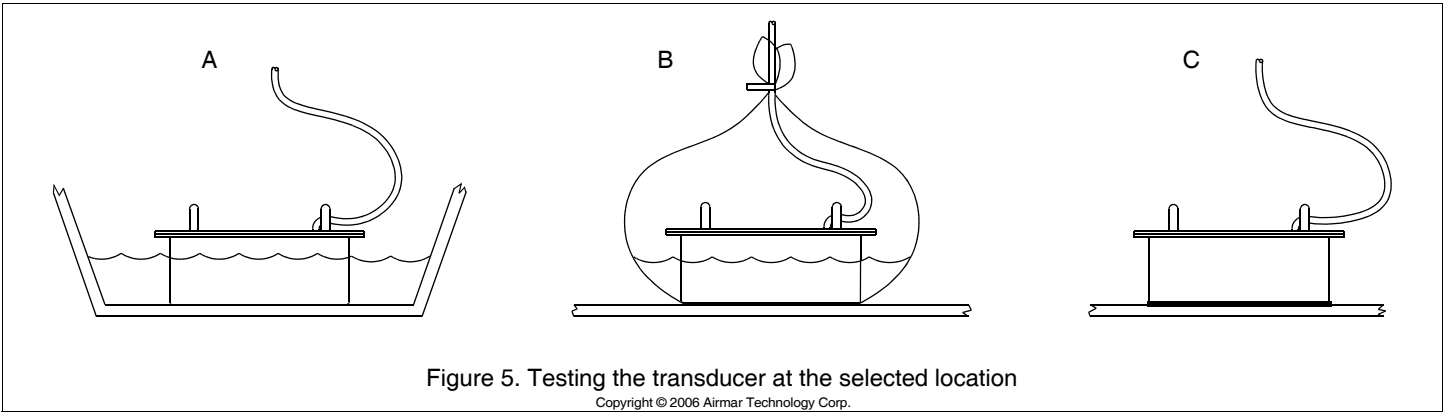

Figure 5. Testing the transducer at the selected location
- A. If the transducer will be located near the stern and the boat has a minimum deadrise angle**—Clean away any build-up of dirt and/or grease using detergent or a weak solvent such as alcohol. Place the transducer against the hull and allow bilge water to cover the surface where they touch (see Figure 5-A).
- B. For a moderate deadrise angle**—If the hull surface is not smooth, grind it with a disc sander. Place the transducer inside a thin plastic bag. Partially fill the bag with water and close it tightly with a cable tie. Wet the surface of the hull and press the active face of the transducer against it through the bag (see Figure 5-B).
**C. For any location**—If the hull surface is not smooth, grind it with a disc sander. Coat the active face of the transducer with a water-based lubricant (such as K-Y® jelly). With a twisting motion, press the face firmly against the hull (see Figure 5-C). After testing, wipe away all traces of the lubricant from the transducer's face.